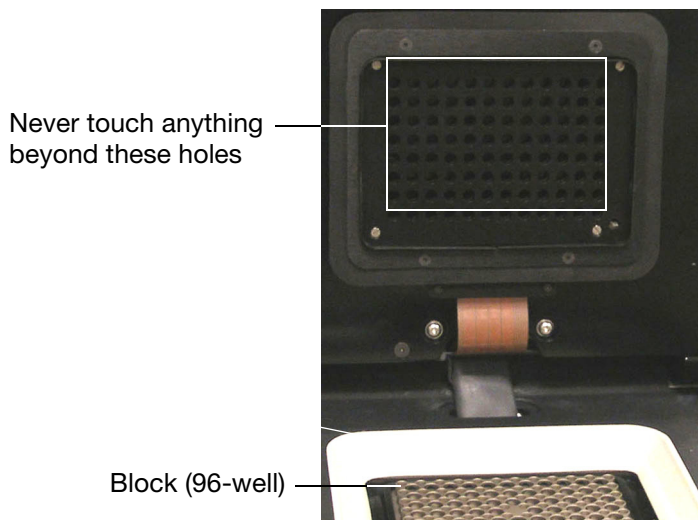

Figure 116. Heating plate holes in the inner lid.
- Never clean or otherwise touch the optical system behind the heater plate holes in the inner lid (Figure 116)
WARNING! Never touch or allow solutions to touch the optical system that is located behind the heated plate holes in the inner lid (Figure 116).